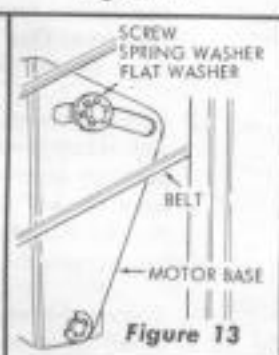

Figure 13
(1) This adjustment is necessary to prevent motor vibration and permit motor mount to move as its position is changed when saw blade is raised or lowered.
(2) The adjustment is made by tightening (or loosening, as required) a screw that secures the slotted slide on motor base to the support assembly. (See figure 13.) This screw controls the pressure between a spring washer and flat steel washer.